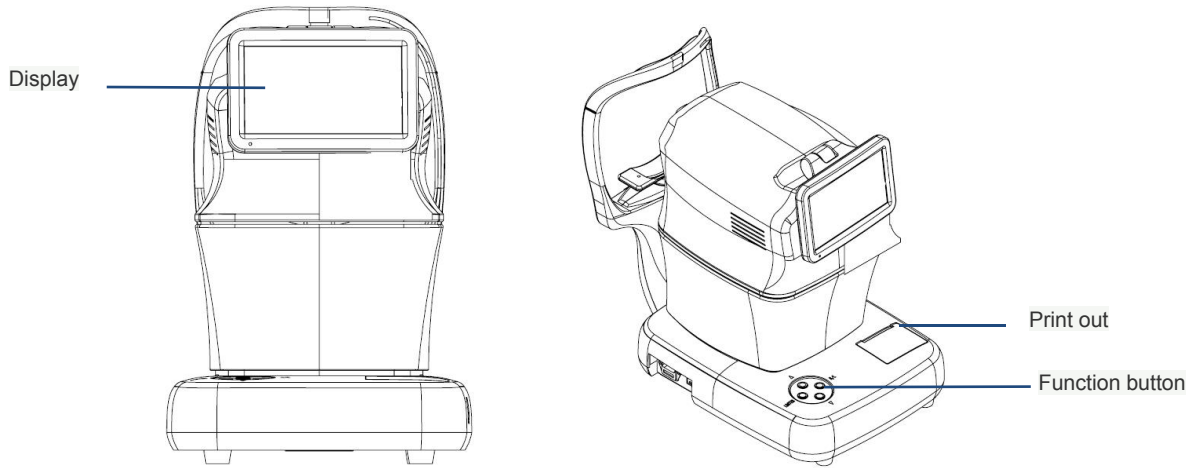

Figure 4 Front view of host
1)Front view of host (Figure 4)